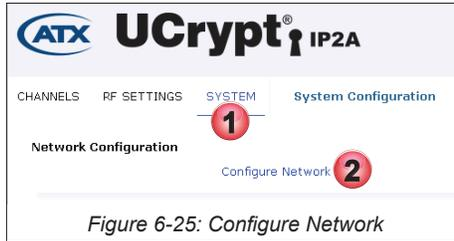

Figure 6-25: Configure Network
1. Click the **System** tab if it isn't already selected, Figure 6-25.